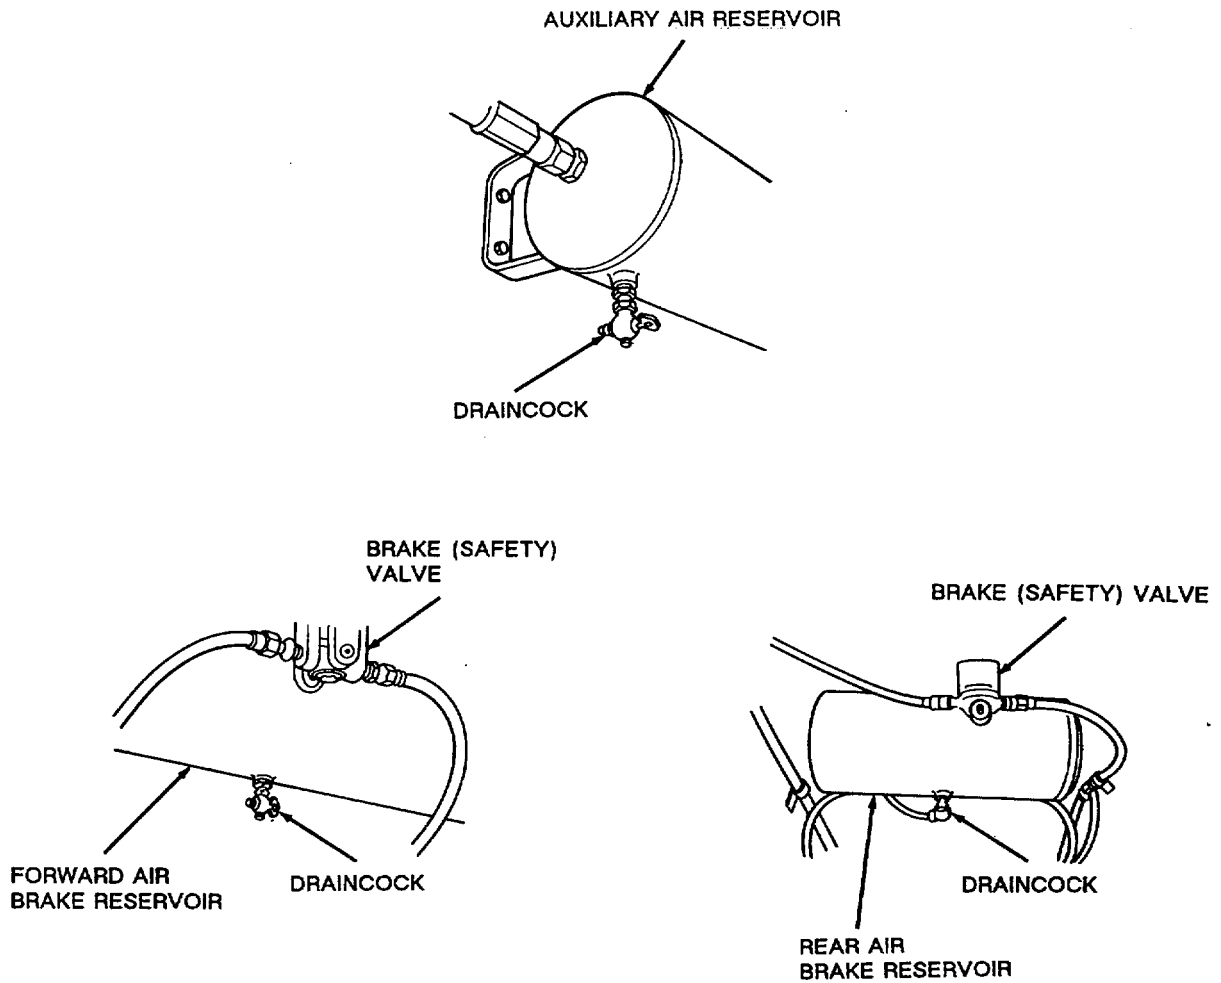

Figure 4-7. Air Reservoir Draincocks.
- (1) Open reservoir draincocks (9, Appendix F, Figure 25) and drain air from air reservoirs (see Figure 4-7).
- (2) Tag and disconnect air lines from air reservoirs.
- (3) Remove screws (12), washers (11), grommets (10), nuts (1), lockwashers (2), and pressure tanks (5, 8, and 13) from frame. Discard lockwashers.
- (4) Remove draincocks (9) from pressure tanks (5, 8, and 13).
- (5) Remove brake valves (3 and 6) from pressure tanks (5 and 8).
- (3) Install brake valves (3 and 6) to pressure tanks (5 and 8).
- (4) Install pressure tanks (5, 8 and 13) to frame with washers (11), screws (12), grommets (10), new lockwashers (2) and nuts (1).
- (5) Connect air lines to air reservoirs as tagged (see Figure 4-7).
- (6) Charge the pressure tanks with air and check all joints and fittings for leaks.